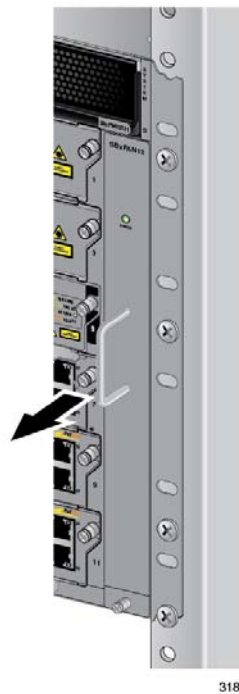

Figure 171. Loosening the AT-SBxFAN12 Fan Module from the Backplane Connector
6. Carefully pull on the handle to disconnect the fan module from the connector on the backplane of the chassis. Refer to Figure 171.